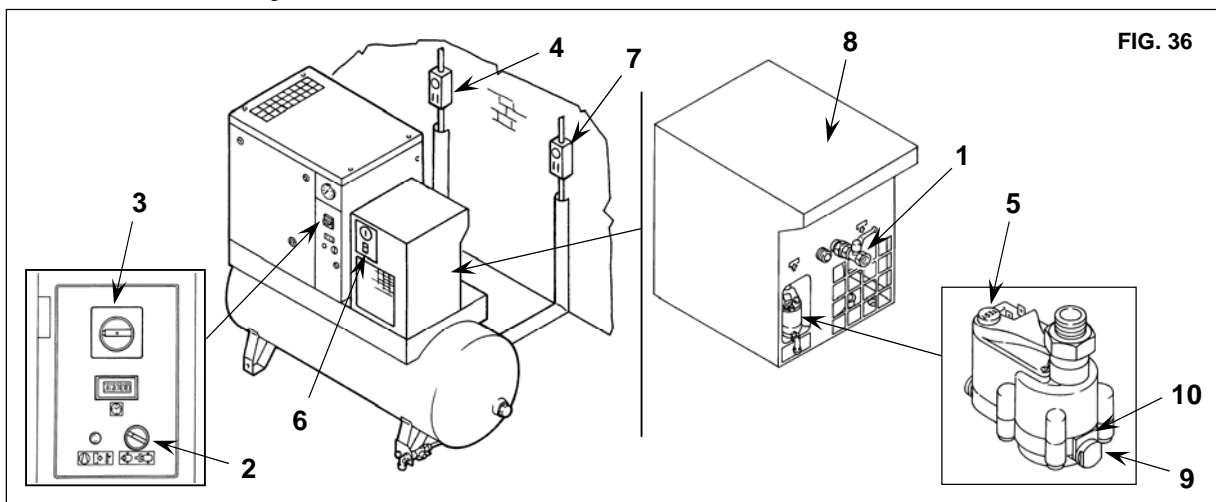

FIG. 36
- Close the cock Ref. 1 Fig. 36
- To turn in position " No load " the selector Rif. 2 Fig. 36
- Stop the machine, turning in "OFF" position the isolating switch Ref. 3 Fig. 36
- Turn on the supply automatic differential switch Ref. 4 Fig. 36
- Release the pressure in the dryer by pressing the condensate drain "TEST" pushbutton locate on the steam trap Ref. 5 Fig. 36.
- Switch off the machine by pressing the STOP button Ref. 6 Fig. 36
- Turn on the supply automatic differential switch Ref. 7 Fig. 36
- Remove the cover Ref. 8 Fig. 36
- Remove the stopper Ref. 9 Fig. 36
- Remove the filter Ref. 10 Fig. 36
- Install the filter, fix the plug Ref. 9 - 10 Fig. 36
- Close the cover Ref. 8 Fig. 36